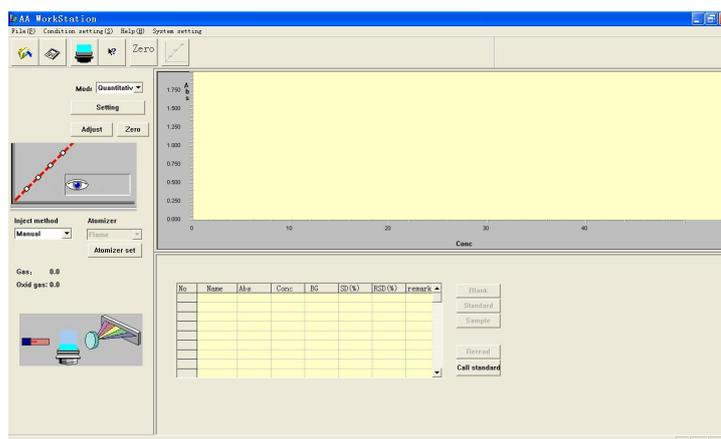

Figure 5-38
- The spectrum obtained is shown in Figure 5-38.